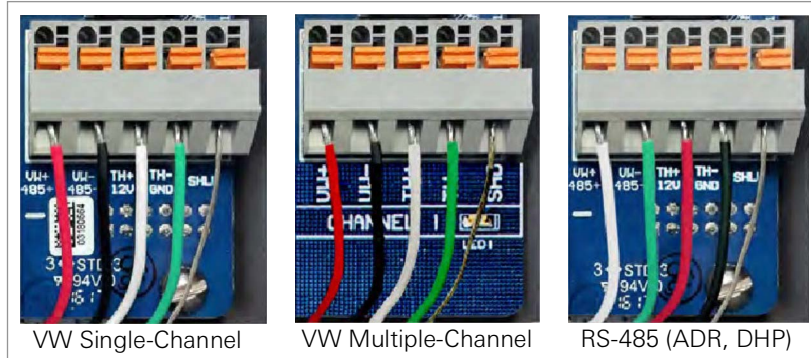

FIGURE 17: Terminal Connections
3. Connect the cable leads to the terminal block by holding down an orange tab, inserting the lead, and then releasing the tab. The wiring order is shown in Table 8 and 9, and in Figure 17.